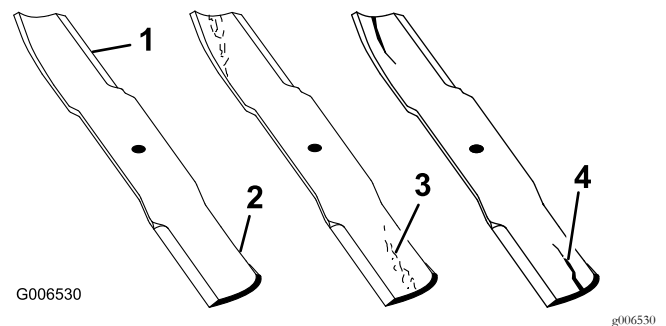

Figure 46
1. Inspect the cutting edges (Figure 46).
4. If you notice any cracks, wear, or a slot forming in this area, immediately install a new blade (Figure 46).